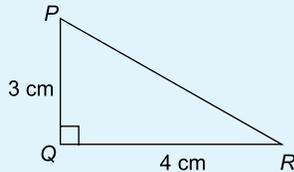

Figure 1.9
7. In the right-angled triangle PQR shown in Figure 1.9, angle R is equal to: